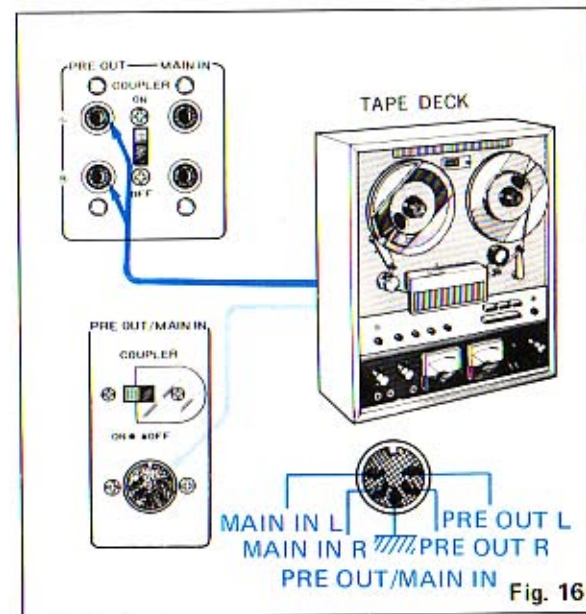

Fig. 16
1. To record a mixed (microphone sound + program source) signal, the tape deck input terminals must be connected to the CR-600 Pre Out jacks. Then recording can be done in the regular way. If the tape deck is connected to the Rec Out jacks, only the program source signal (without the microphone sound) will be recorded. See Fig. 16.